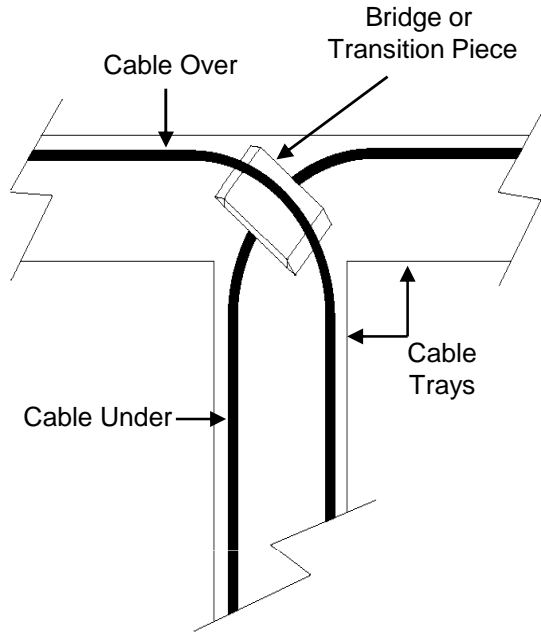

Figure 3
10.4 When tube cables must cross each other, use of a “Waterfall” type product to bridge or transition one cable up and over the other. This method will prevent the weight of the upper cable from laying on the lower cable and possibly deforming the tubes. **See Fig. 3.**